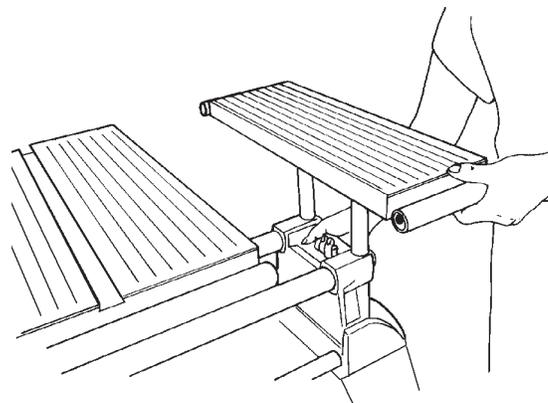

Figure B-99
- 78. Mount the extension table in the Mark V's accessory base mount (on the right side) at a comfortable height, as shown in Figure B-99. Use a 1/2" wrench to loosen the bottom nuts holding the table base to the table approximately 1/4" from the table. This will allow you room for later adjustment.